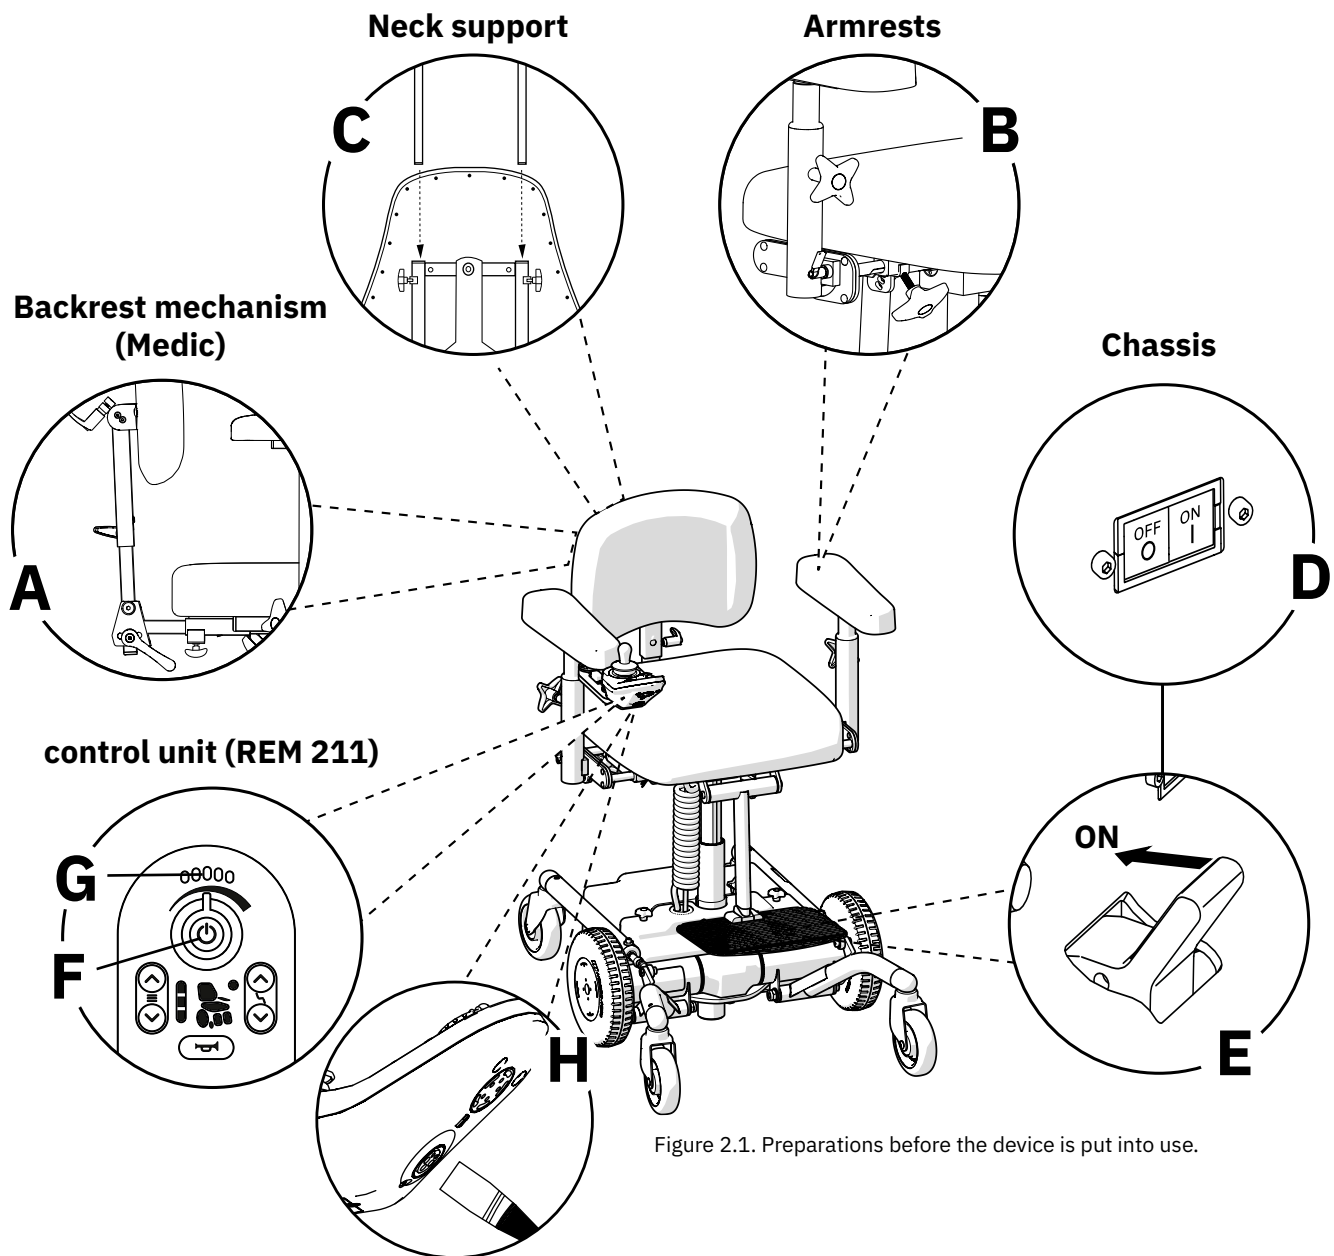

Figure 2.1. Preparations before the device is put into use.
Place the backrest post in the backrest mechanism (A) and set the desired height level, see Figure 2.1. Tighten all levers (A). The image shows one of several back mechanisms available for Mercado Medic devices. Other back mechanisms are mounted in the same way, although the appearance may differ from that in the image.
Loosen the armrest levers (B) and set the desired height and width levels, see Figure 2.1. Tighten all controls (B). Make sure the knob clicks into the locking position when the armrest is lowered. If the knob does not click in position, rotate the knob until it clicks firmly.
If the device is supplied with a headrest, insert the head rest mechanism into the backrest bracket (C) and set the desired height level, see Figure 2.1. Tighten all controls (C).
Check that the circuit breaker is in the "ON" (D) position and that the brake activation lever is in the "ON" (E) position, see Figure 2.1.
1. Turn on the main switch (F), see Figure 2.1.
2. Check that the battery level indicator is at least showing a yellow mark (G). Charge the device if the indicator is showing a red marking. See 2.3. Charging.
3. Make sure the light on the main switch (F) is green.
1. Plug the charging contact into the charging socket. The charging socket is located on the front edge of the control unit and labelled with a battery symbol, see Figure 2.1 (H).